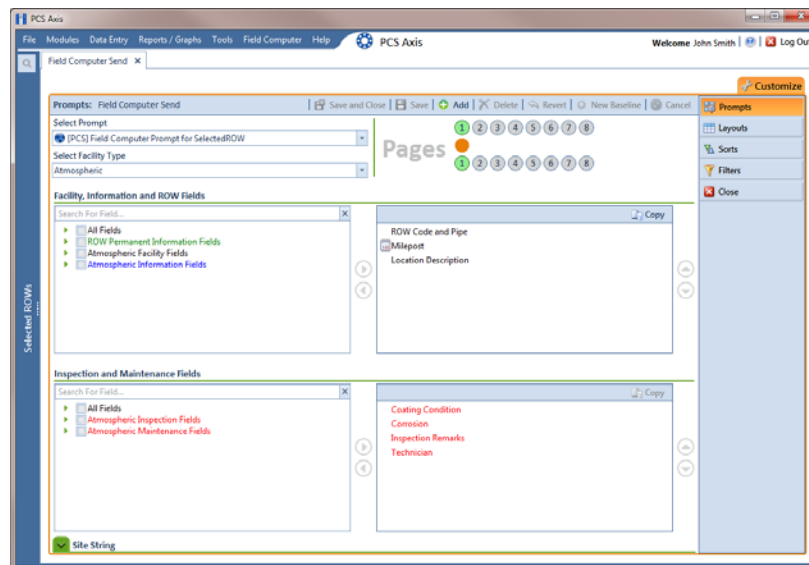

Figure 8-19. Prompts
- Click the **Customize** tab , then the **Prompts** button  to open the *Prompts* page (Figure 8-19).